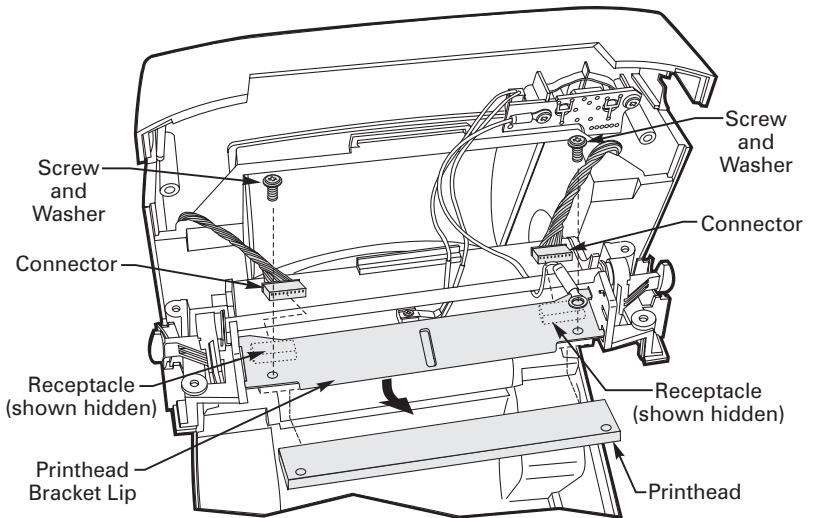

Figure 27
4. Refer to Figure 27. Remove both printhead wire harness connectors from their receptacles.
5. Refer to Figure 27. Remove the two screws and washers that secure the printhead to the printhead bracket. Then, lift the lip on the front of the printhead bracket to remove the printhead.